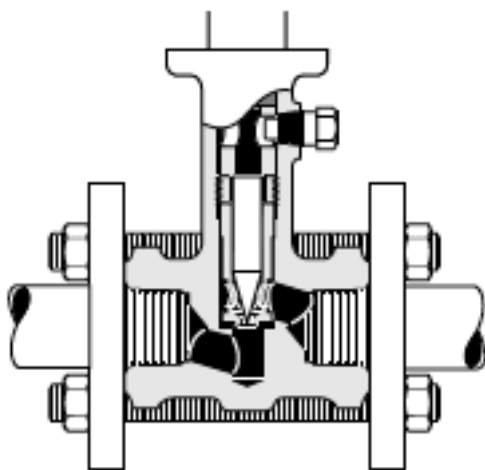

Figure 7 - VariPak flanged connection
3.2 Valve Installation (Figures 7, 8 and 9)
4.5 POSITIONER START-UP PRESSURE ADJUSTMENT (Figures 7, 25, 26 and 27)